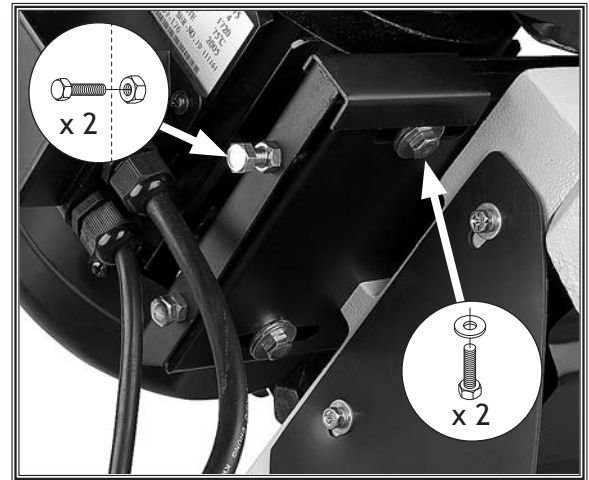

Figure 14. Motor mounting fasteners installed.
3. Thread (2) $\frac{5}{16}$ "-18 x 1" hex bolts with (2) $\frac{5}{16}$ "-18 hex nuts into side of motor mount plate, then thread (2) $\frac{5}{16}$ "-18 x 1" hex bolts with (2) $\frac{5}{16}$ " flat washers into motor mount bracket (see **Figure 14**).